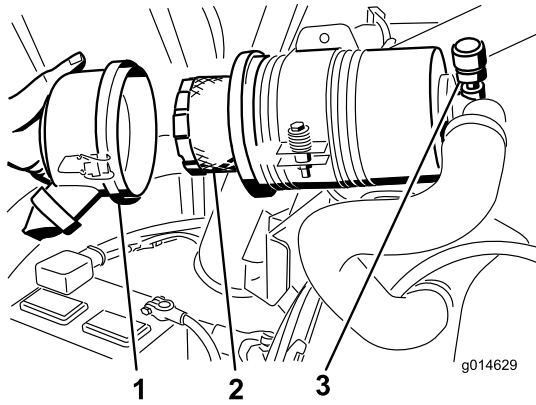

Figure 47
- Remove and replace the filter (Figure 47).